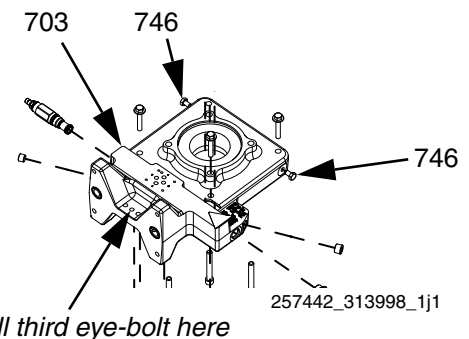

FIG. 10
5. Disconnect heat exchanger inlet hose and fitting from elbow fitting (617). Disconnect heat exchanger outlet hose and fitting from elbow fitting (025).
6. Remove the two bolts (746) from the fluid housing (703) and replace each with a strong 5/16-18 thread eye-bolt. Install a third strong 5/16-18 eye-bolt as indicated. See FIG. 10. See FIG. 8 on page 32 for full hydraulic power pack view.
3. Align the holes with the tank then install finger-tight the four bolts (604) and washers (603) securing the tank to the electrical enclosure. Torque to 10 ft-lb (14 N•m).
5. Remove eye-bolts. Install original bolts (746) into fluid housing (703). See FIG. 10.
8. Connect heat exchanger inlet hose and fitting to elbow fitting (617). Connect heat exchanger outlet hose and fitting to elbow fitting located on rear right face of tank. See **Power Pack Module** on page 52.